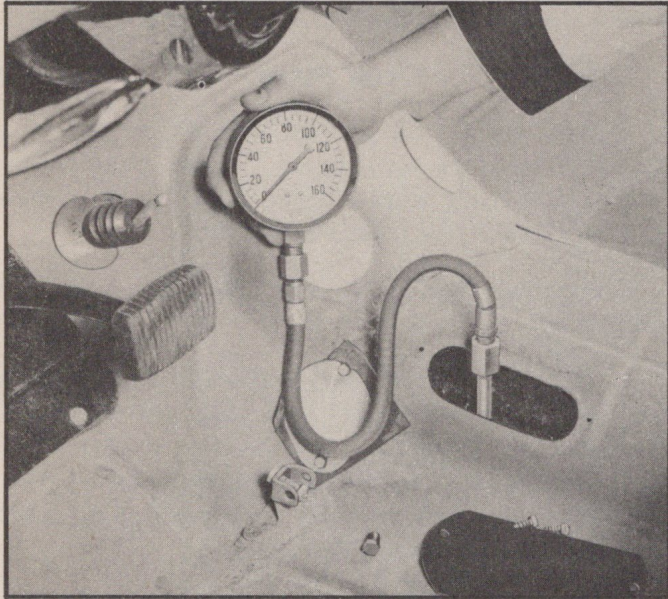

Fig. 320—Checking Main Line Oil Pressure
3. Screw fitting on gauge J-2540 into transmission (Fig. 320).